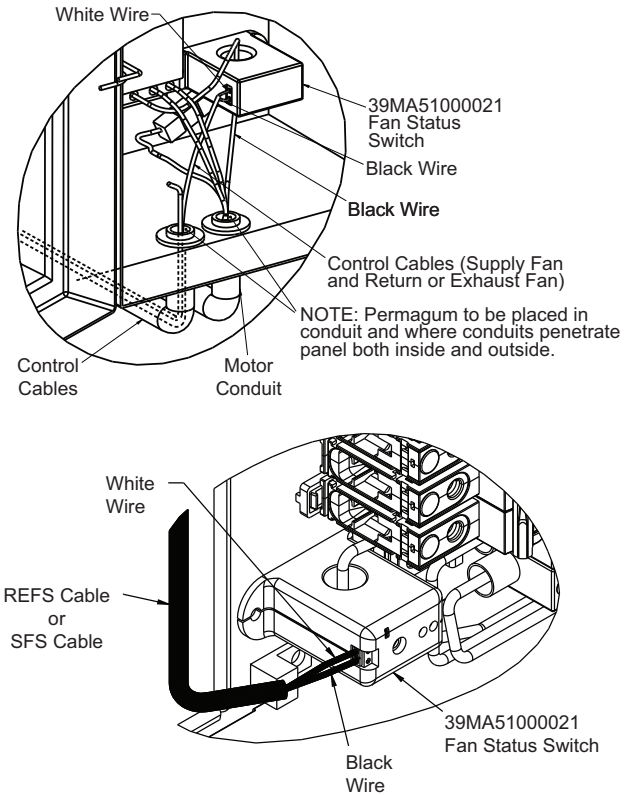

Fig. 21 — Fan Status Switch Installation
2. Loop (1 turn) “Black” wire from conduit assembly running into the starter/disconnect/VFD/bypass/ECM Fan Power Box from the motor through the sensor as shown in Fig. 21.
4. Connect the control wiring to the control connection terminals near the top of the fan status switch as shown in Fig. 21.